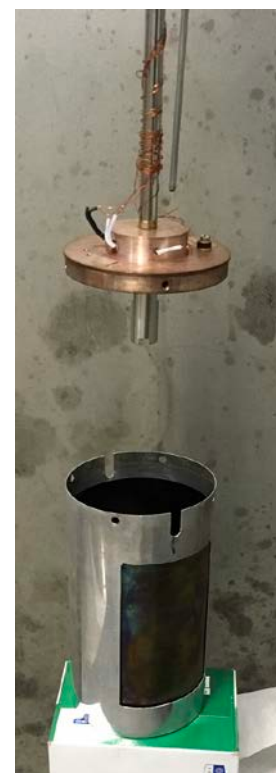

Figure 4. Sample stick and heat shield.
- e. Start flowing He, by turning the three-way valve to point to the gas line on the left (Figure 4).